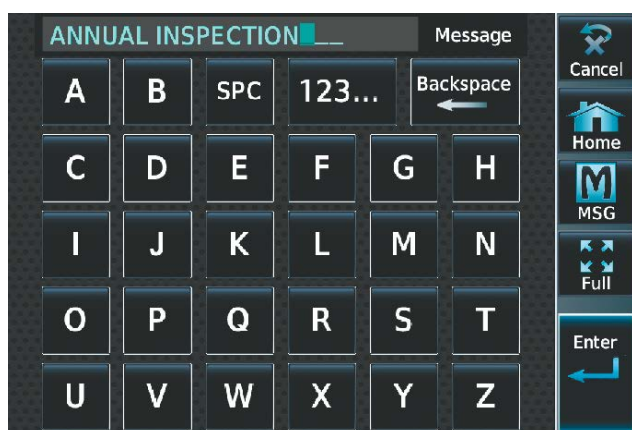

Figure 8-101 Enter Message Name
- 4) The keypad is displayed as in Figure 8-101. Enter the message name using the keypad. The large and small upper knob can also be used to enter the characters.